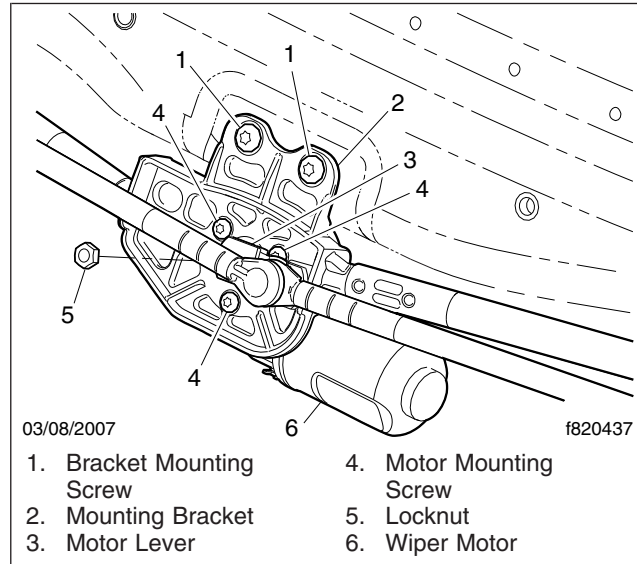

Fig. 3, Wiper Motor Installation
7. Remove the nut that attaches the motor lever to the motor shaft; see Fig. 3.
10. With the linkage in park position, as shown in **Fig. 3**, install the nut that attaches the motor lever to the motor shaft. Tighten the nut 15 to 18 lbf-ft (20 to 24 N-m).